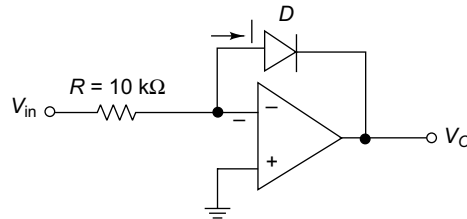

Fig. 5.58 Circuit of Ex. 5.24
5.24 Figure 5.58 shows a log amplifier using OP-AMP and diode. The characteristics of the